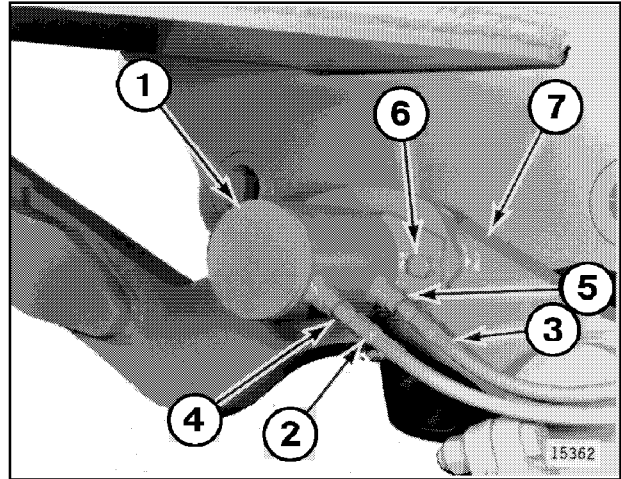

Figure 62
1. Position moldboard on ground to relieve weight on lock pin cylinder (1, Figure 62).
3. Tag and disconnect hoses (2 and 3, Figure 62) from fittings (4 and 5). Remove fittings from cylinder.
4. Remove two bolts and plain washers (6, Figure 62) and cylinder from link weldment (7).